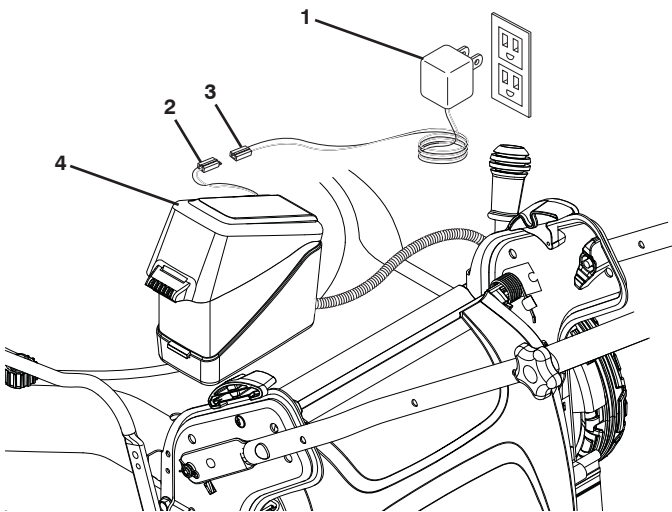

Figure 5
1. Open battery box (Figure 5).